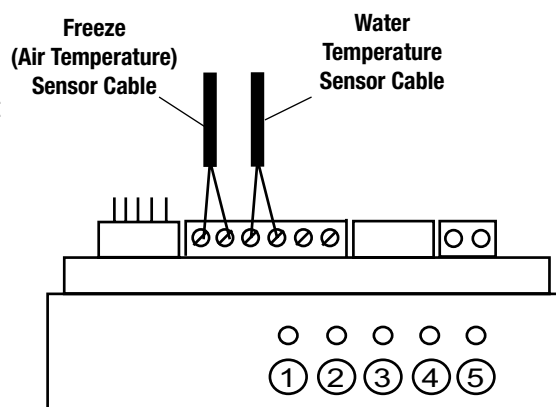

Figure 7-6. Connecting freeze (air temperature) sensor cable wiring.
5. Strip the ends of the exposed cable wires and then insert the wires into the terminals to the left of the water temperature sensor wires. See Figure 7-6.